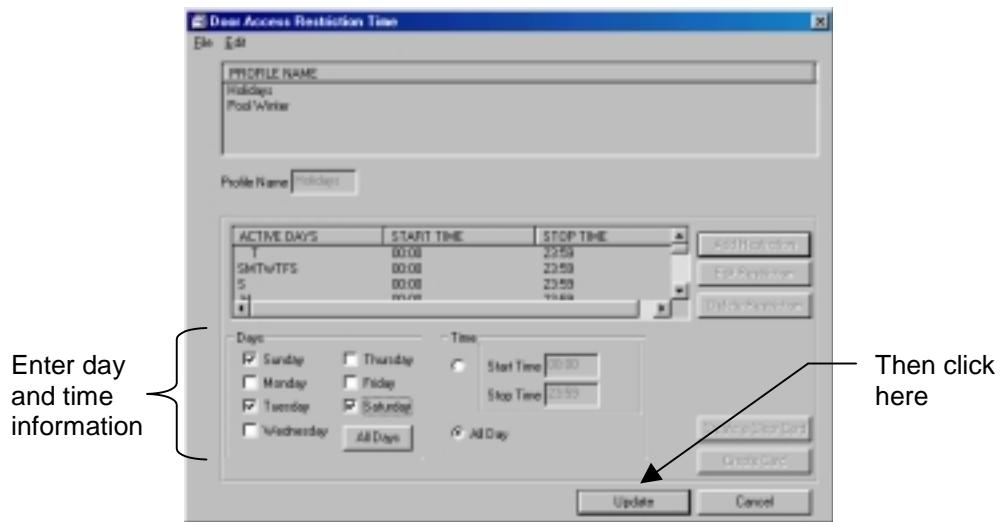

Figure 11.52 Selecting Restriction Parameters
3. Enter the restriction days and time as defined in Table 11.3 (Figure 11.52).
4. Click the Update button to save the new restriction (Figure 11.52).